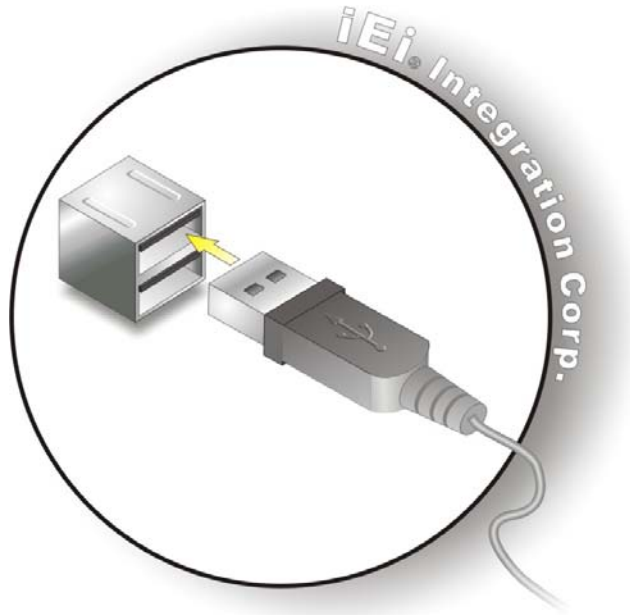

Figure 4-10: USB Connector
- Step 1: Insert a USB Series "A" plug.** Insert the USB Series "A" plug of a device into the USB Series "A" receptacle on the external peripheral interface. See Figure 4-10.